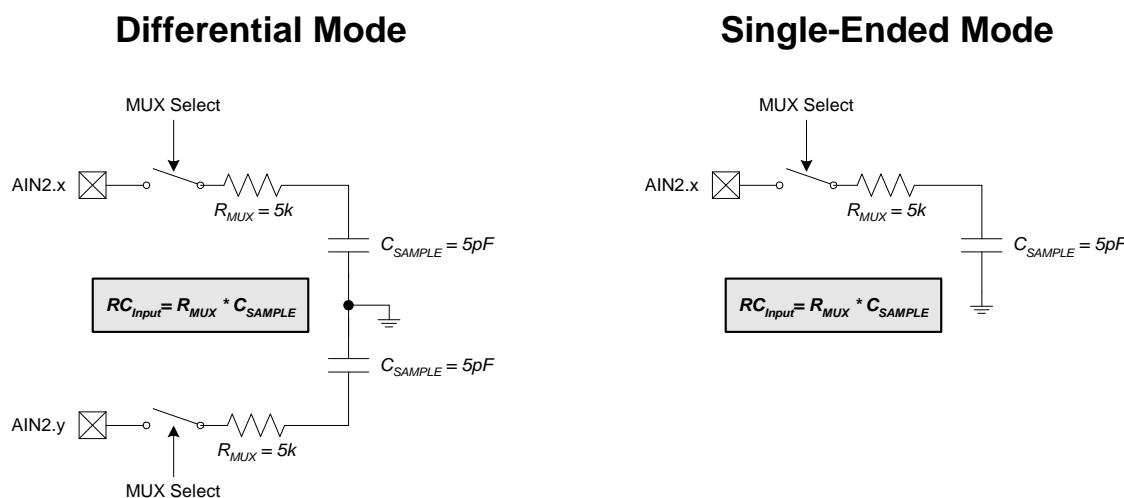

Figure 7.3. ADC2 Equivalent Input Circuit
A minimum tracking time is required before an accurate conversion can be performed. This tracking time is determined by the ADC2 MUX resistance, the ADC2 sampling capacitance, any external source resistance, and the accuracy required for the conversion. Figure 7.3 shows the equivalent ADC2 input circuit. The required ADC2 settling time for a given settling accuracy (SA) may be approximated by Equation 7.1. Note: An absolute minimum settling time of 800 ns required after any MUX selection. In low-power tracking mode, three SAR2 clocks are used for tracking at the start of every conversion. For most applications, these three SAR2 clocks will meet the tracking requirements.